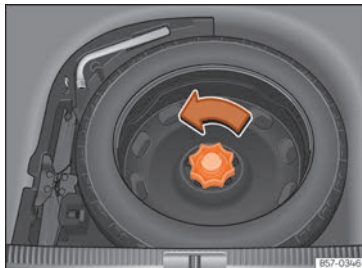

Fig. 222 In the luggage compartment: load floor raised.
- Turn the thumb wheel anti-clockwise »» Fig. 222.